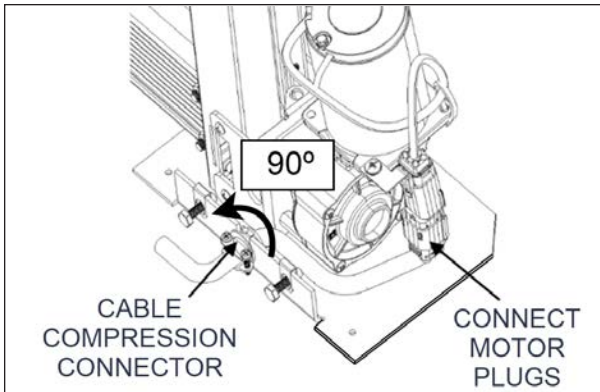

FIGURE 82: CONNECTOR AND PLUGS
11. Connect the cable to the motor harness and tighten the screws of the compression connector onto the base. The screws of the compression connector should be oriented horizontally. You might have to rotate the connector as shown on Figure 82.